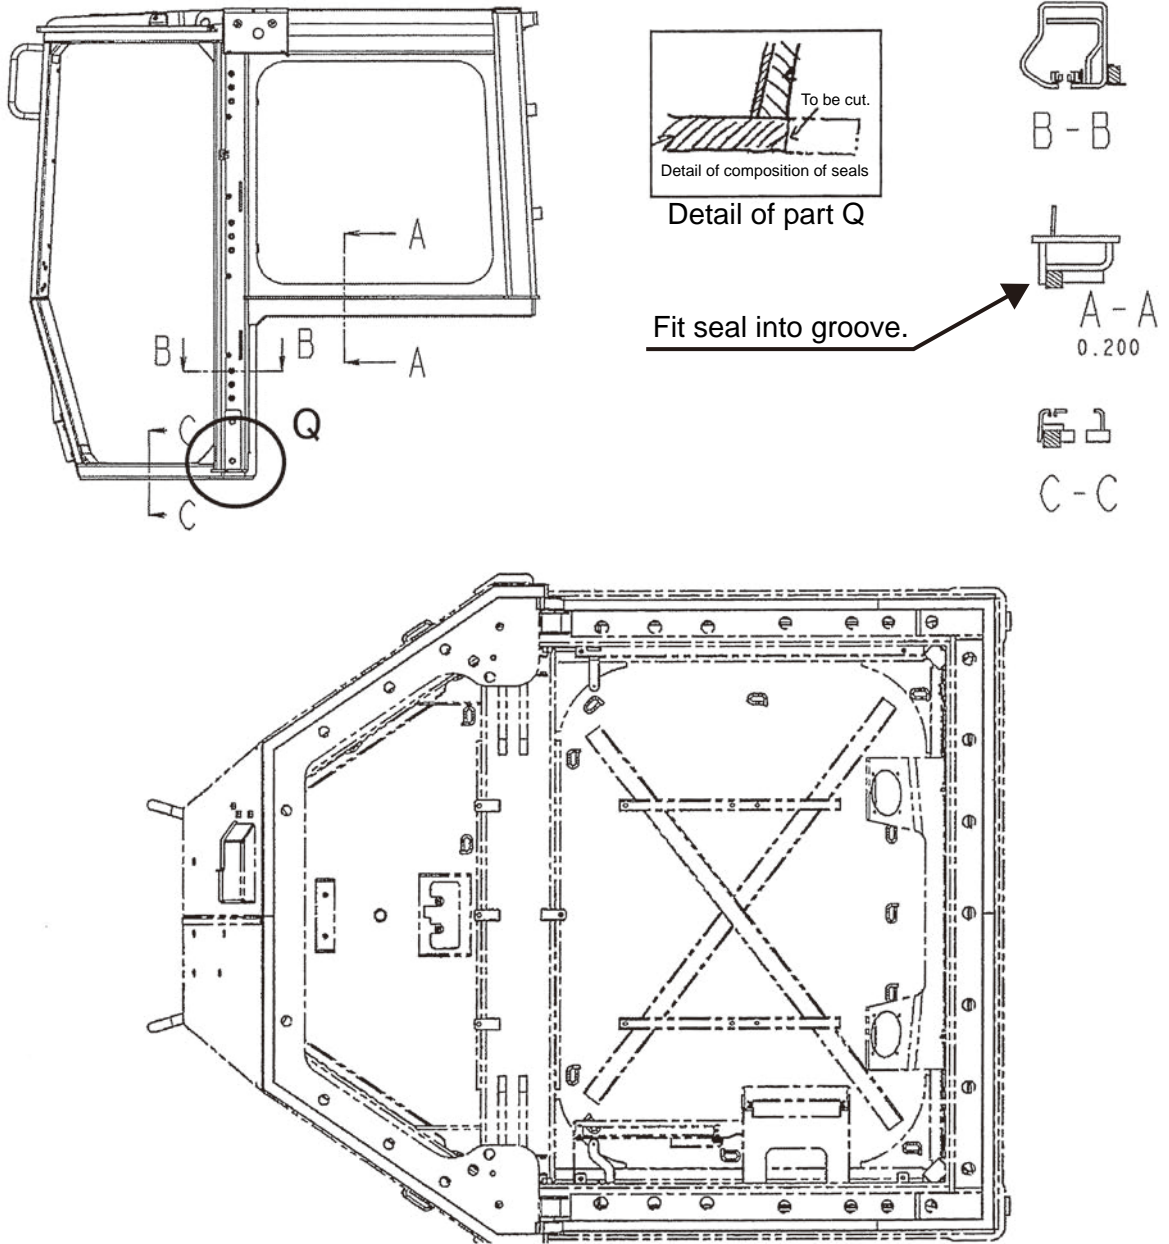

Fig. 5 Sticking of seals
(2) Remove dirt and oil from the seal sticking surfaces.
(3) Remove the release paper from seals (8) and stick the seals as shown in Fig. 5.